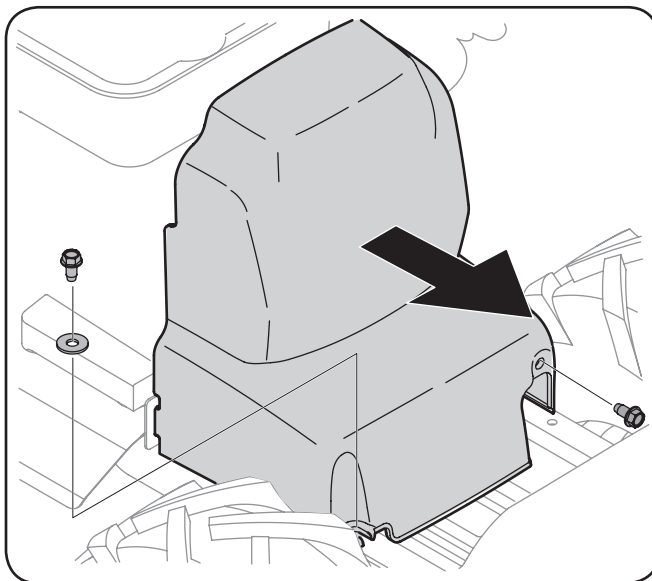

Figure 7-1
2. Remove the belt cover as seen in "Figure 7-1", by first removing the two ¼-20 hex washer screws and one flat washer. Lift the belt cover up and away from the tiller and set in a safe location until reinstallation.